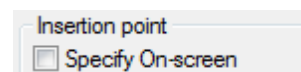

Figure Step 11A
Step 11 Ensure that the three Specify On-screen boxes are disabled. (Figure Step 11A and 11B)